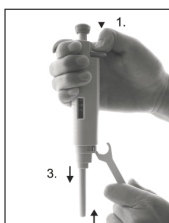

Fig.8
- Place the tooth of the opening tool between the tip ejector and the tip ejector collar to release the locking mechanism (Fig.8).